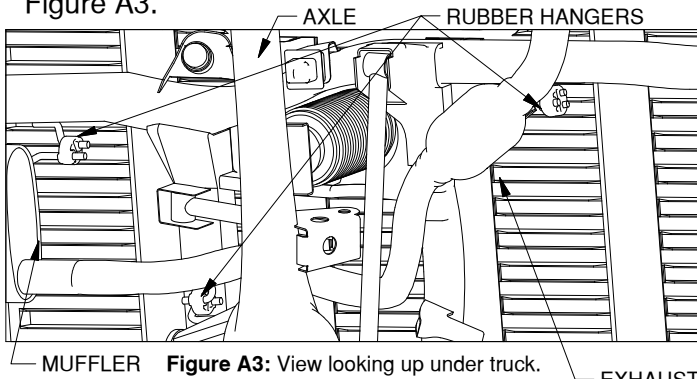

Figure A3: View looking up under truck.
7. **Lower the exhaust.** Locate the three rubber hangers toward the rear of the truck. Use a pry bar to disconnect the rubber hangers from the exhaust, see Figure A3.